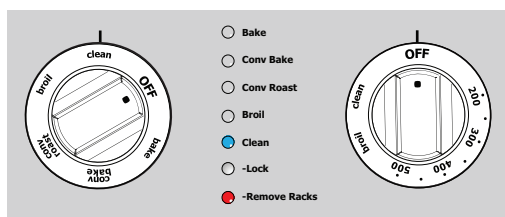

Figure 25: Initial clean selection
1. Turn the function dial to **clean**. The **Clean** and **-Remove Racks** indicator lights will blink to remind you to remove the racks and rack ladders from the oven cavity (Figure 25).